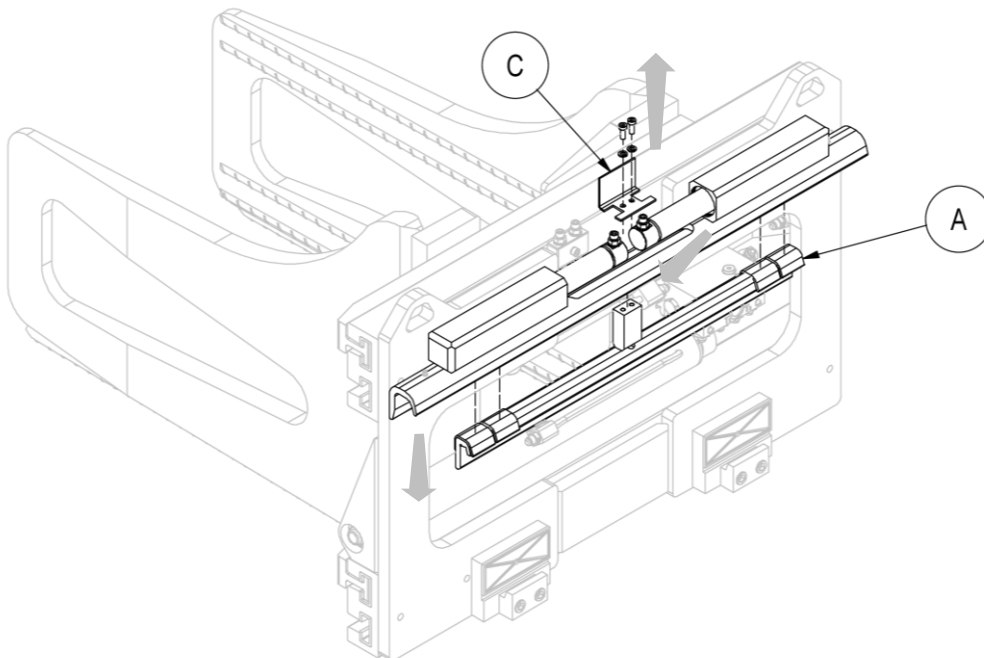
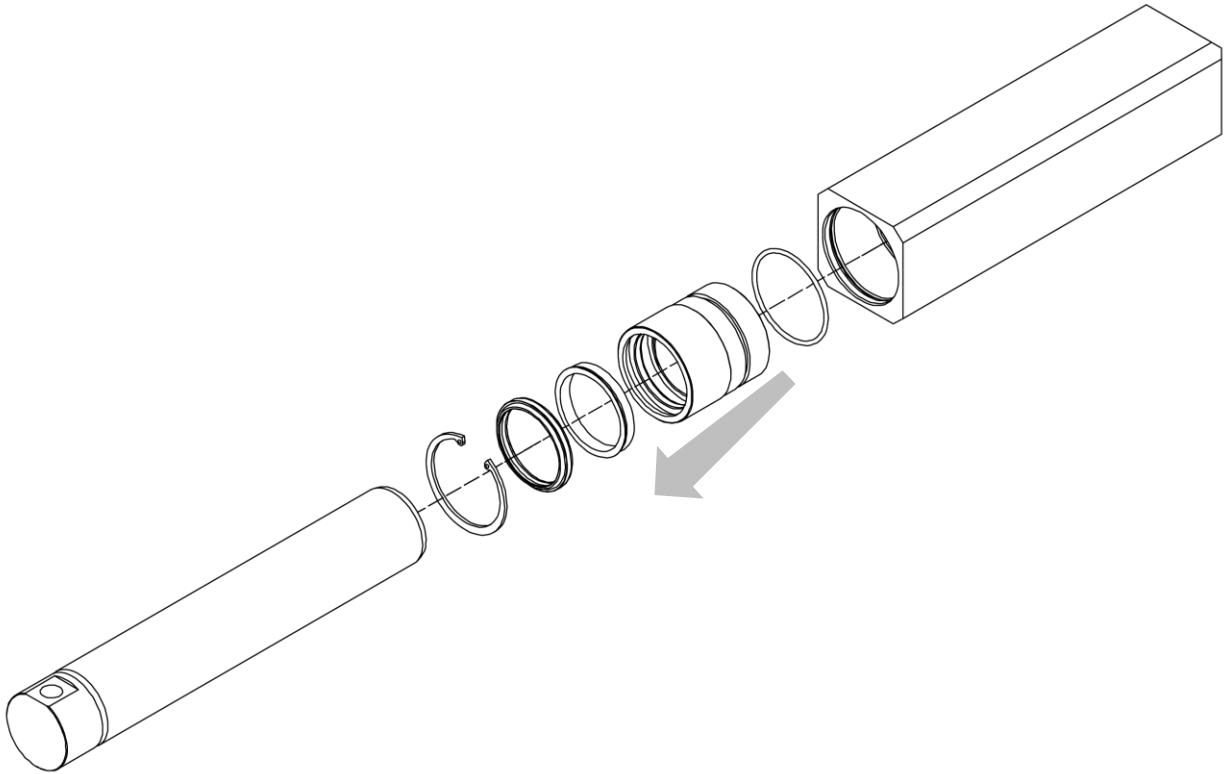

Figure 29
Figure 30
3. Remove dual coupling (A) after removing the “protection bracket” (P) with its associated bolts, (in *Removing the Equipment from* the Forklift Truck this step has already been outlined).
7. Use *Figure 29* and *Figure 30* as guides.